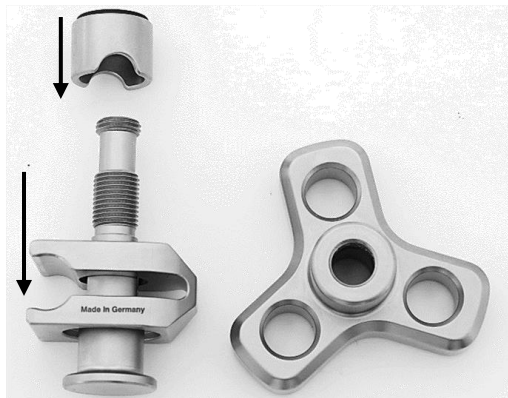

Fig. 6
As shown in Figure 6, first insert the clamping piece (3) and then the clamping sleeve (2) over the threaded rod (4).